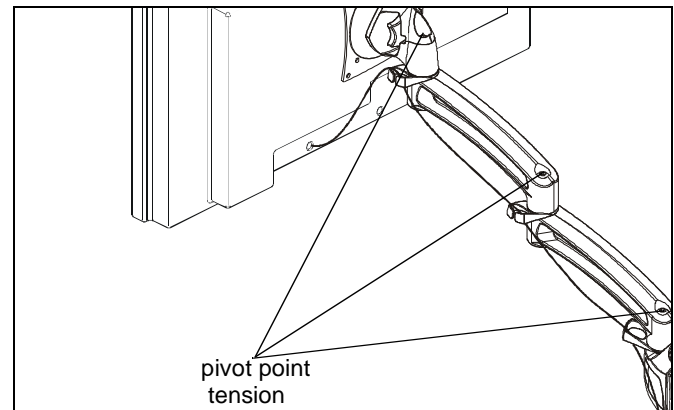

Figure 14
1. Adjust pivot position as desired. (See Figure 14)
2. Adjust pivot point tension screws to change pivot adjustment tension. (See Figure 14)